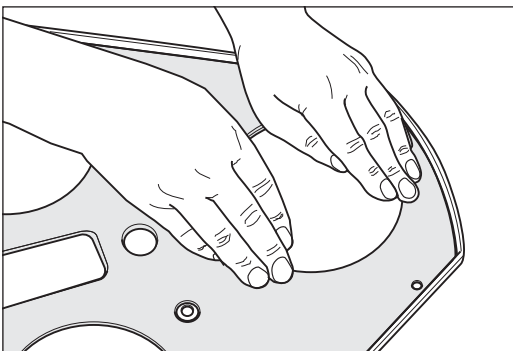

Fig. 105 Press the sealing felt carefully all over, especially at the edges and around the cutaways for the sanding plate pulleys.
- 8** Press the sealing felt carefully onto the cover everywhere, especially at the edges and around the cutaways for the sanding plate pulleys (fig. 105).